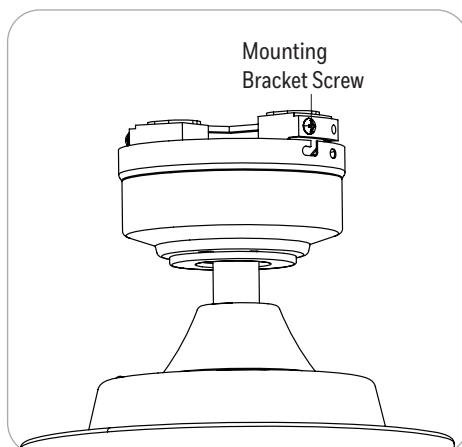

Figure 5.2
- Align the canopy over the loosened mounting bracket screws. Place the J-slot of the canopy onto the mount bracket screws and rotate clockwise (Figure 5.2).